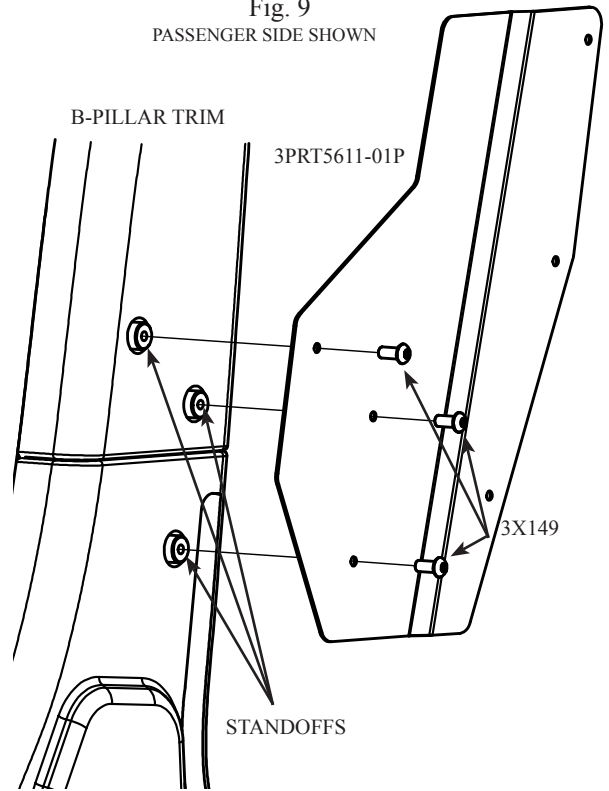

FIG. 10
A. Due to the weight and size of the partition, assistance from another party is highly recommended. Insert the partition into the vehicle, lift and position the partition so that it alines with the Partition Mounting Plates, using the supplied 1/4-20 x 3/4" Carriage Bolts (3X36) and 1/4-20 Whiz nuts (3X16Z) secure the Partition to the Mounting Plates, Hand tighten only. (See Fig. 10)